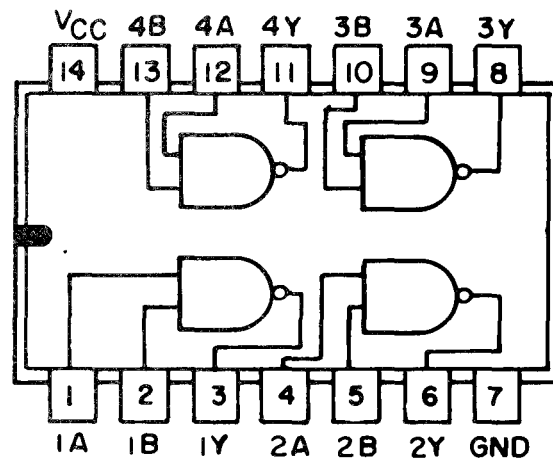

Figure 1-33. Quadruple 2-Input NAND Gate.
7. *Quadruple 2-Input NAND Gate (SN5400)*. Gate pins are identified in figure 1-33